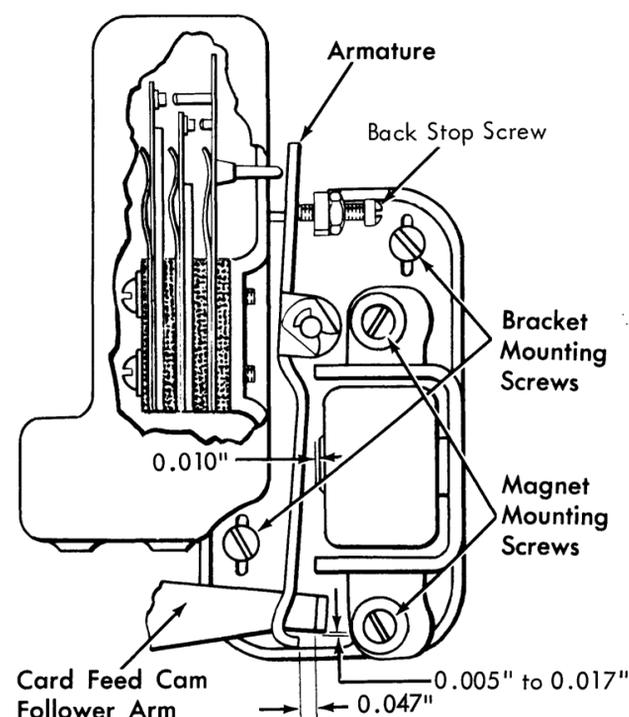

Figure 4-6. CF Latch Magnet Adjustment
1. Turn backstop screw 1/32-inch off their supports (Figure 4-6).
1. Provide 3/64-inch (0.047-inch) clearance from latch magnet armature to ear on CF cam follower arm (Figure 4-6).